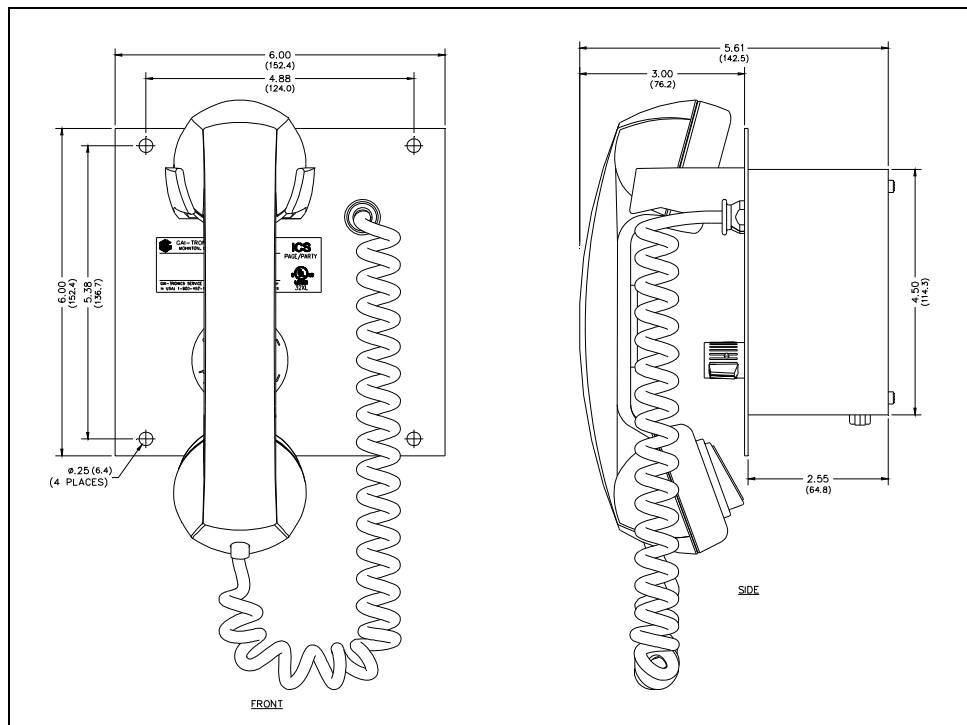
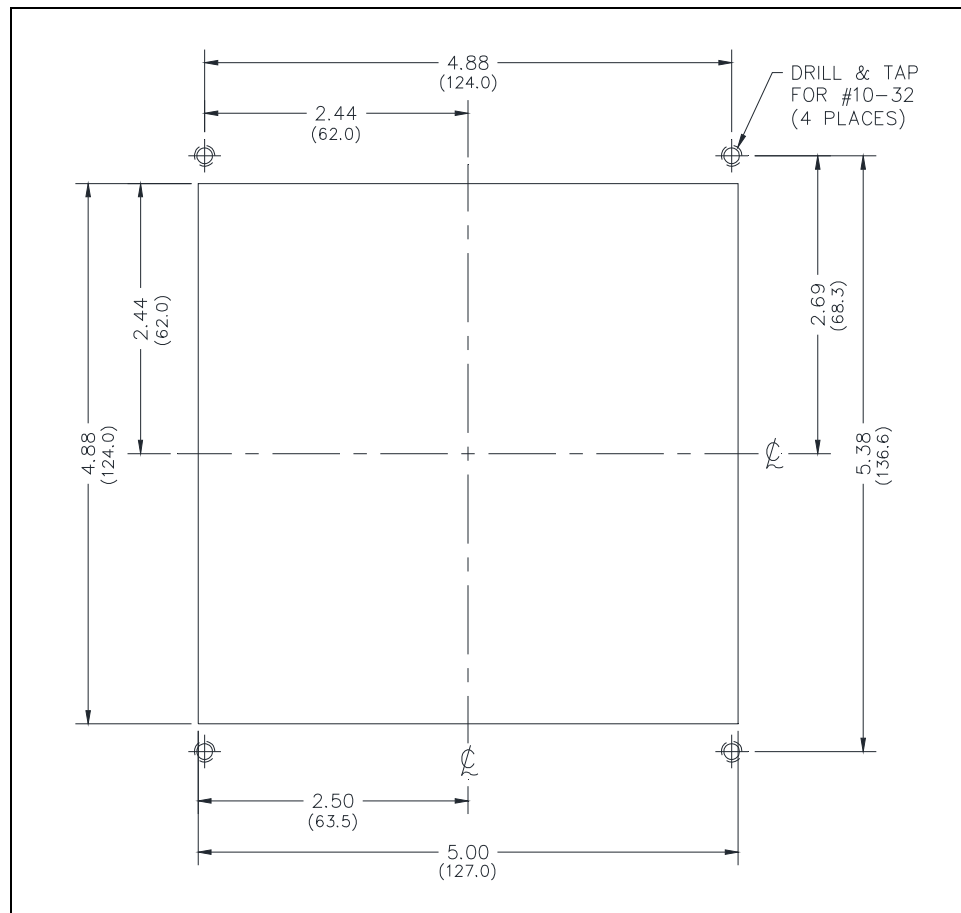

Figure 2. ICS/SP2 Multi-Party Flush-Mount Subset Outline
Figure 3. Flush-Mount Cutout Detail
1. Use the dimensions from the figure below (see Figure 3) to create the cutout for the flush-mount subset.
2. Drill and tap four holes to mount the subset in the recess (see Figure 2 and Figure 3 for the subset mounting hole locations and dimensional requirements).